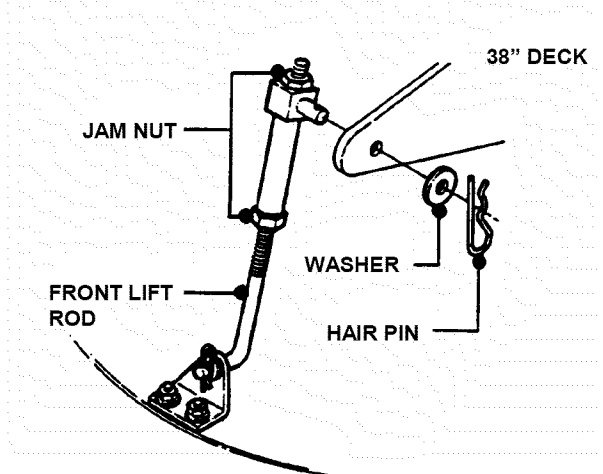

FIGURE 4.14
6. Disconnect the front lift rod and the rear hanger plates. See Figure 4.14.